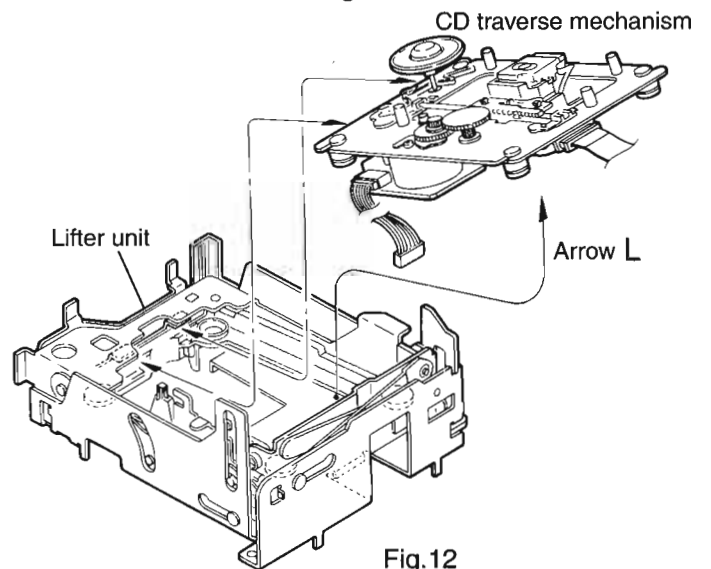

Fig.12
- 3.Disconnect the main amplifier board CN415 and CN416 from the power amplifier board. (See Fig 12)